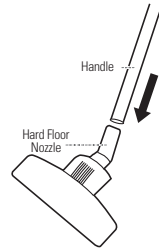

Fig. 15
5. Push button on wand to extend telescoping wand. (Fig. 15)